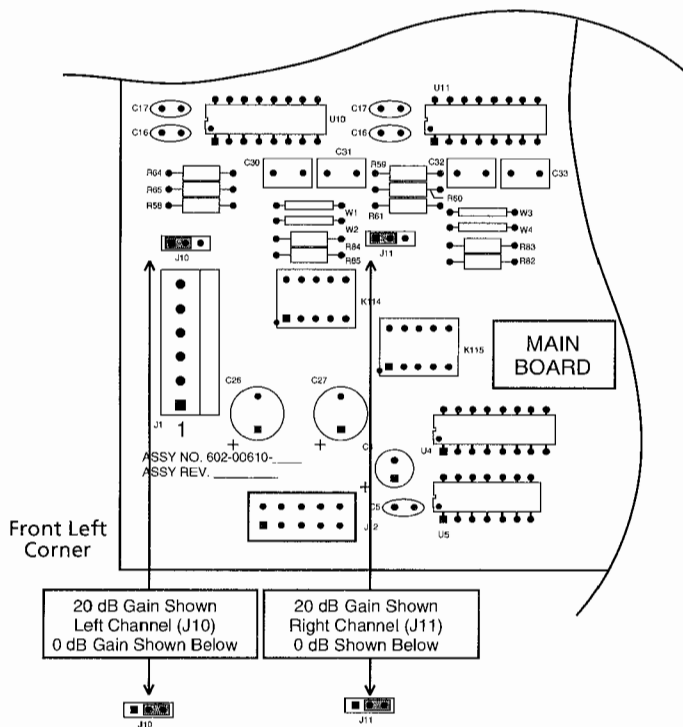

Figure 5. Unbalanced Output Modification
3. Locate jumpers J10 and J11 on the Main Board (see Figure 5). Move the blue mini-link jumpers to pins 2-3 as shown in the Figure.